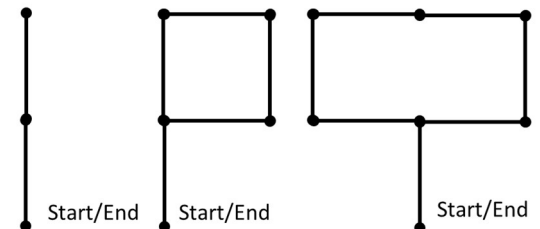

Figure 2: Path layouts for Task 3.
- a. Create the three paths shown in Figure 2.